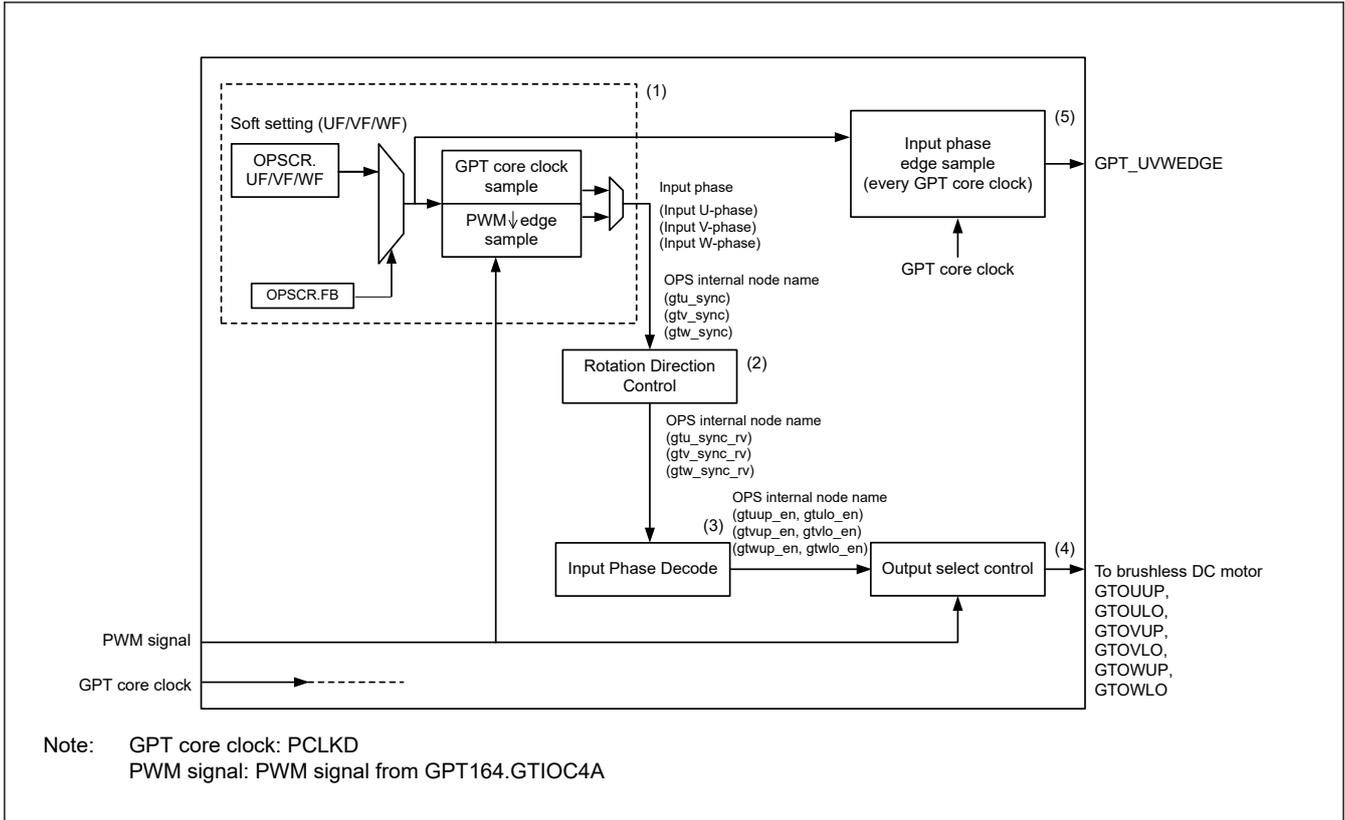

Figure 20.55 Conceptual diagram of GPT\_OPS control flow
Figure 20.55 shows the conceptual diagram of GPT\_OPS control flow.
In the GPT OPS control flow conceptual diagram shown in Figure 20.55, (1) is a selection of input phase from the software settings by the OPSCR.FB bit.
In the GPT\_OPS control flow conceptual diagram shown in Figure 20.55, (3) enables the 6-phase signals by decoding the input phase.
In the GPT\_OPS control flow conceptual diagram shown in Figure 20.55, (2) controls the direction of rotation of a 3-phase motor using the OPSCR.RV bit.
In the GPT\_OPS control flow conceptual diagram in Figure 20.55, (4) represents the selection of the output waveform by setting the OPSCR register bit.
In the GPT\_OPS control flow conceptual diagram shown in Figure 20.55, (5) outputs the UVW input signal edge to the ELC.